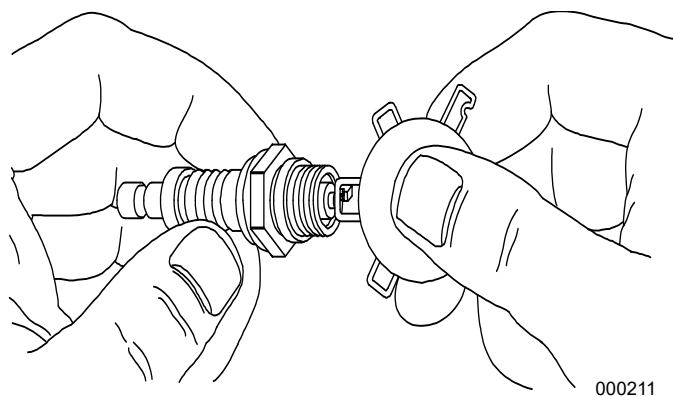

Figure 5-15. Adjusting Spark Plug Gap
7. See Figure 5-15. Inspect spark plug gap using a wire feeler gauge. Adjust gap by carefully bending ground electrode as follows: